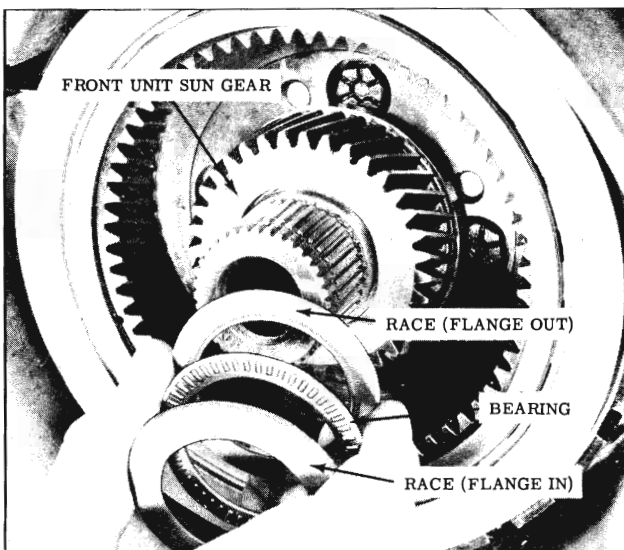

Fig. 3-101 Installing Bearing and Races
19. Install thrust bearing and races as shown and retain with petrolatum. (Fig. 3-101)